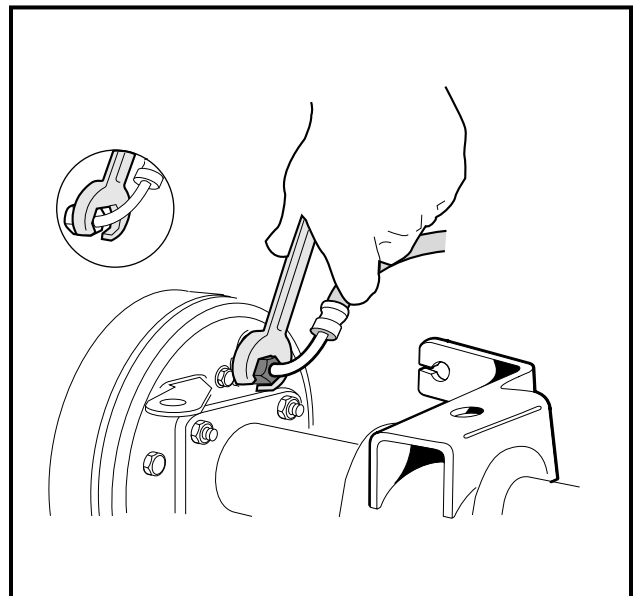

Figure 16-23 Brake Hose
- 7.4. Use a 3/8 inch flare nut wrench and remove the brake hose from the rear brake cluster. To avoid spilling brake fluid, lift the hose above the brake cluster assembly (**Figure 16-23, Page 16-11**).